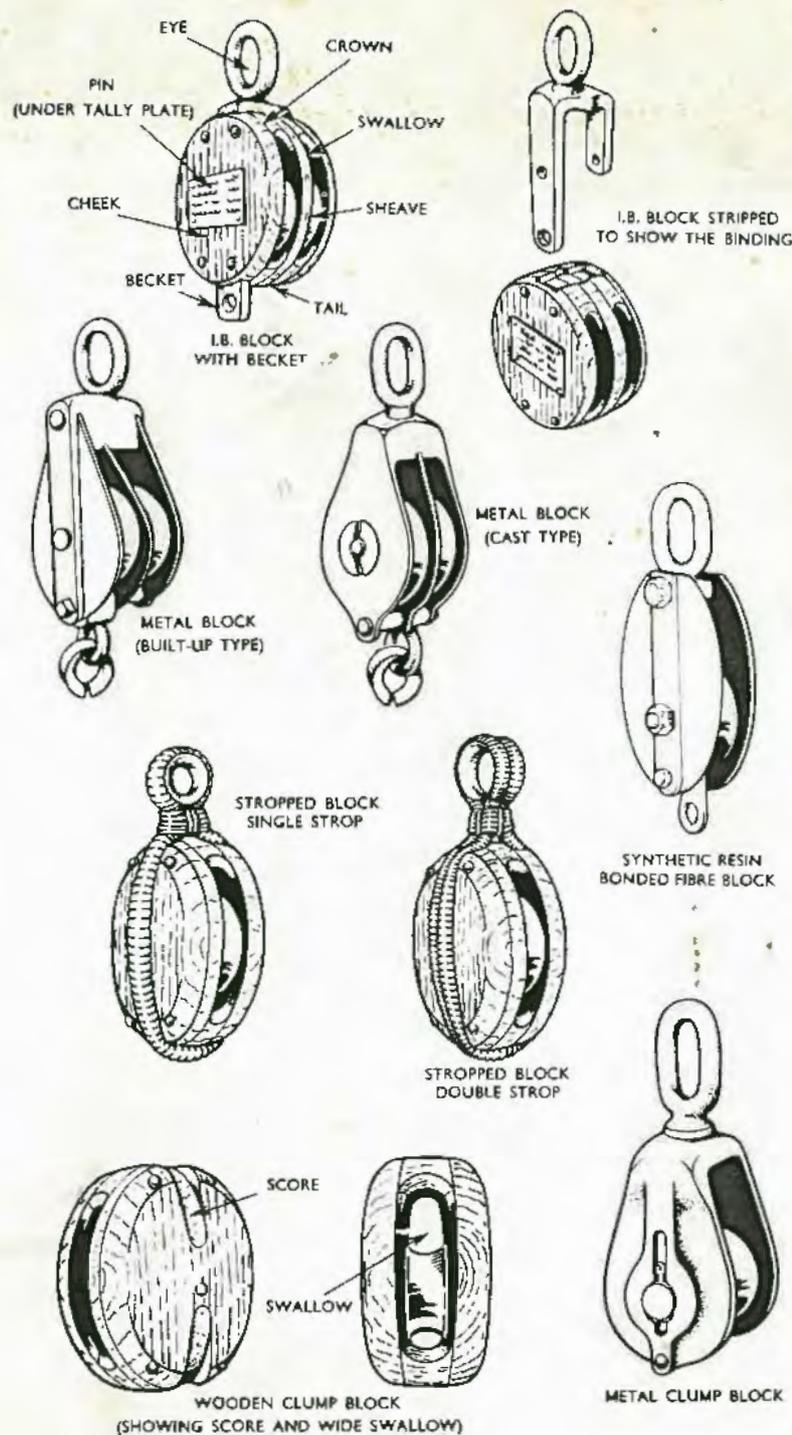

FIG. 8-4. Blocks
### Parts of a block (fig. 8-4)
**Synthetic-resin bonded fibre (SRBF) block** (fig. 8-4). This block is built up of steel bindings, and its means of attachment and sheave pins are of steel. The cheek plates and sheave are made of synthetic-resin bonded fibre. SRBF blocks are designed for use with man-made and natural fibre ropes and can be single, double or triple blocks or snatch blocks with *proof loads* of two, four or eight tonnes. These blocks should not be used for wire rope and should not be oiled or greased.
**Metal blocks** (fig. 8-4). These blocks are usually built up of steel plates and fittings, their shells have a binding which supplies the strength, but the cheeks, etc., are of light plating. The simplest pattern is the *gin block*, which consists of a binding, carrying one large sheave, and a skeleton rope guard instead of cheeks. Some types of metal blocks, however, have their shells cast in one piece.
**Internal-bound (IB) block** (fig. 8-4). This block has a shell partly of wood and partly of metal, and is the modern type of wooden block. The metal portion consists of a fork-shaped steel fitting called the binding, which incorporates both the eye or hook and the becket when fitted; it also takes the pin of the sheave. The internal-bound block has been superseded by the SRBF block.
**Clump block** (fig. 8-4). This block can be of wood or metal and it has an exceptionally large swallow. It will take a rope one-sixth its size, where the block is measured from crown to tail in millimetres and the rope is measured by diameter in millimetres. For example, a 230-mm block will take a 36-mm rope. Wooden clump blocks are used on lower booms to support the bights of the boatrope(s), and metal clump blocks are designed to take chain.